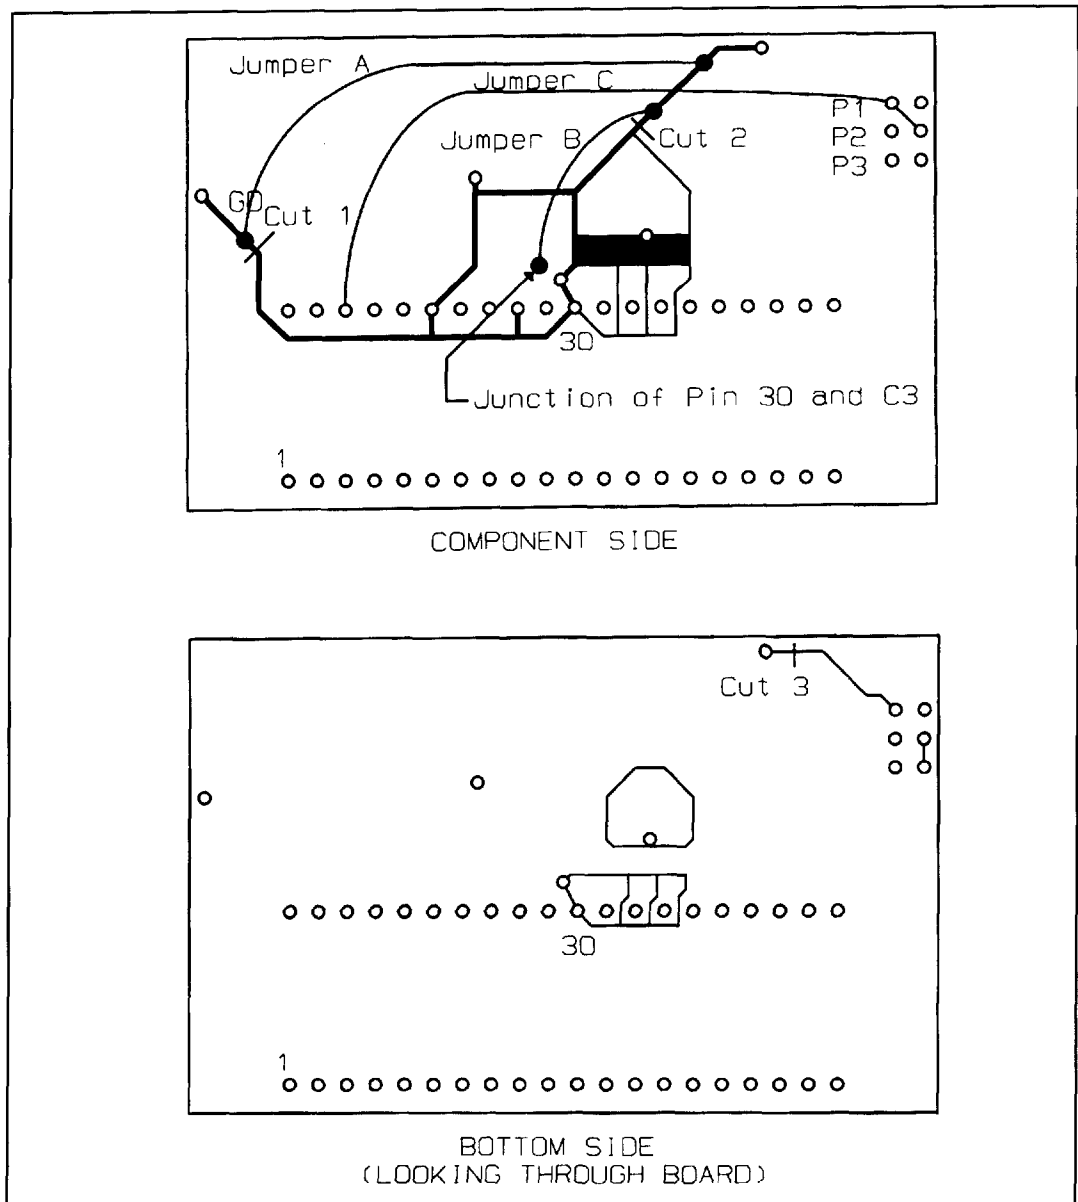

Figure 8. Cuts and jumpers for the "easy way" modification.
Figure 8 shows where to make the three cuts, two on the component side and one on the bottom side, and where to add three jumpers. When I make a pc board trace cut, I like to remove a short section of the trace, about 1/32 to 1/16 inch, just to make sure that the trace is severed and can't become reattached. I also scrape down into the pc board substrate material slightly to remove all of the adhesive and any trace remnant that may remain. Cut 1 isolates the input low (GD) pad; cuts 2 and 3 isolate the low end of RA. Jumper A connects the input low pad back to the low end of RA. Jumper B connects the junction of C3 and pin 30, the connection just made above the pc board, back to the low end of RA. Jumper C reconnects the decimal-point drive, but back to the OSC 3 pin rather than to the common terminal. Note: *Do not use the decimal-point drive as directed in the data sheet for the DM-128.* If you do, the decimal point will be permanently fixed on. The decimal-point drive is discussed in detail below.